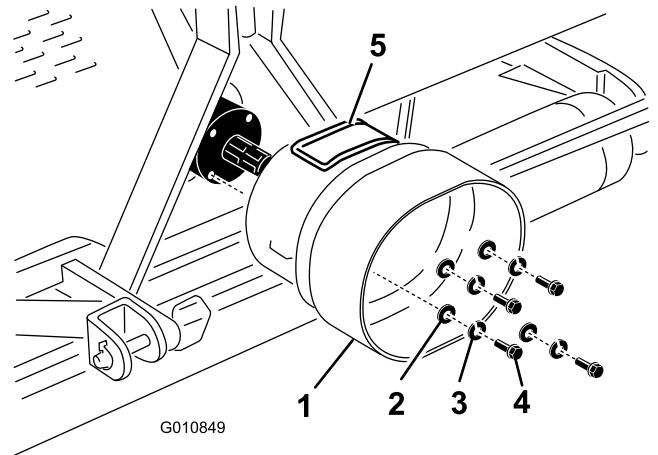

Figure 22
1. Remove the 4 bolts, lock washers, and flat washers secured to the rear of the aerator gearbox (Figure 22).
2. Mount the PTO shield to the aerator gearbox with the fasteners previously removed (Figure 22).
Align the access panel (Figure 22) of the PTO shield to the top or the side depending on the aerator frame configuration.
Note: You can open the access panel (Figure 22) to ease the removal and installation of the PTO shaft mounting fasteners.